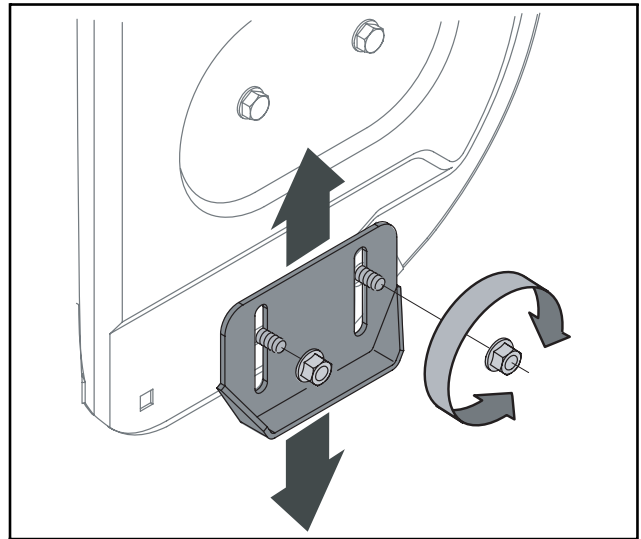

Figure 5
The space between the skid shoes and the ground can be adjusted. See Figure 5.
- To remove skid shoes, remove the four carriage bolts and hex flange nuts which secure them to the snow thrower. Reassemble new skid shoes with the four carriage bolts (two on each side) and hex flange nuts. Refer to Figure 5.